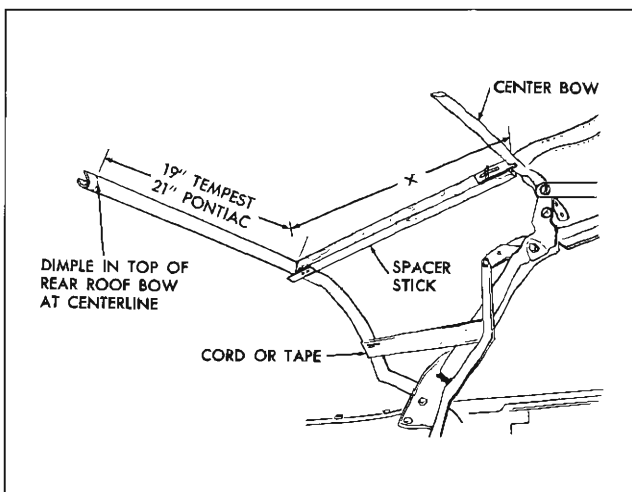

Fig. 21-18 Spacer Stick Installed
16. Lock top to windshield header. Install radius end of each adjustable spacer stick to fit against center roof bow. Install opposite end of spacer stick so that metal plate fits under rear roof bow (Fig. 21-18 and 21-19). Spacer sticks should be installed along inboard edge of side stay pad.
18. Temporarily tie or tape rear bow to rear side roof rails (Fig. 21-18). Detach nylon webbing, side stay pads and back curtain assembly from rear bow.
1. If new top is being installed but it was impossible to perform step 16 of removal procedure, pre-set spacer sticks to shortest length and install between center and rear roof bow (Fig. 21-18). Adjust sticks so that dimension X in Fig. 21-18 (measured along spacer stick from front upper rolled edge